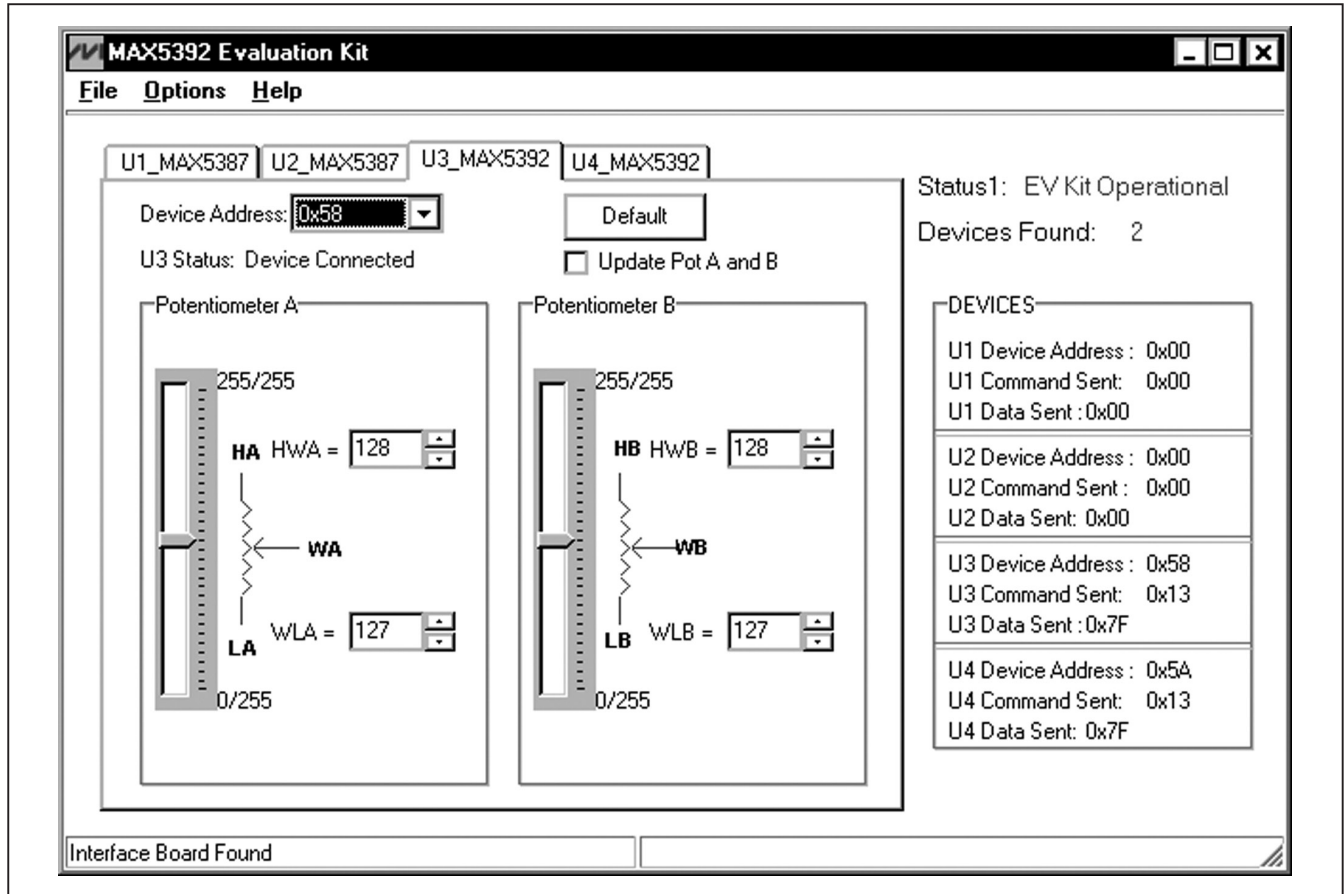
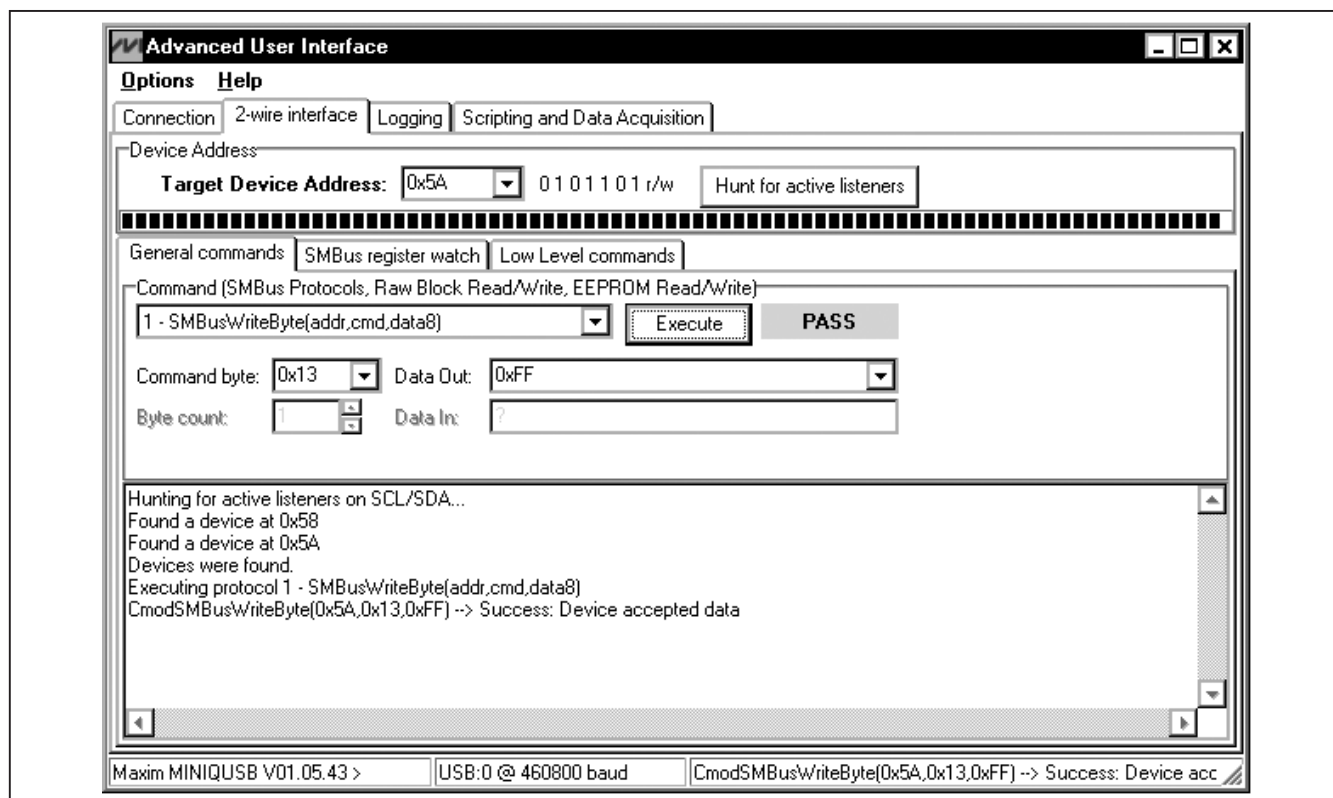

Figure 1. MAX5392 Evaluation Kit Software Main Window
Figure 4. Simple Low-Level 2-Wire Interface
- 14) The EV kit software main window appears, as shown in Figure 1.
The MAX5392 EV kit software GUI shown in Figure 1 is a Windows program that provides a convenient means to control two MAX5392M dual potentiometers. Use the mouse or press the Tab key to navigate through the GUI controls. The correct SMBus/I²C write operations are generated to update the MAX5392M internal memory registers when any of these controls are executed.
There are two methods for communicating with the EV kit, through the normal user-interface panel (Figure 1), or through the I²C commands available by using low-level SMBus™ or by selecting the **2-Wire Interface** (Figure 4) utility from the main program's **Options | Advanced Users Interface** menu bar. A window is displayed that allows I²C operations, such as **SMBusReadByte** and **SMBusWriteByte**. Do not use the **SMBusReadByte** operation because the MAX5392 does not send data to the master.
Note: The I²C dialog boxes accept numeric data in binary, decimal, or hexadecimal. Hexadecimal numbers must be prefixed by \$ or 0x. Binary numbers must be exactly eight binary digits. Figure 4 shows a simple SMBus write-byte operation using the included 2-wire interface diagnostics tool. In this example, the software is writing data 0xFF to command byte 0x13 to the device with the device address 0x5A. The data sequence sets the MAX5392 (U4) wiper positions WLA and WLB to 255.